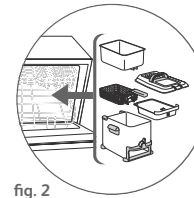

fig. 2
- All the parts (except the control unit) are dishwasher safe – fig. 2.
- Clean the lid, the bowl, the housing, the frying basket – fig. 2 and the Oil box with soap and water or put them in the dishwasher. Clean the control unit and the heating element with a damp cloth. Dry thoroughly.